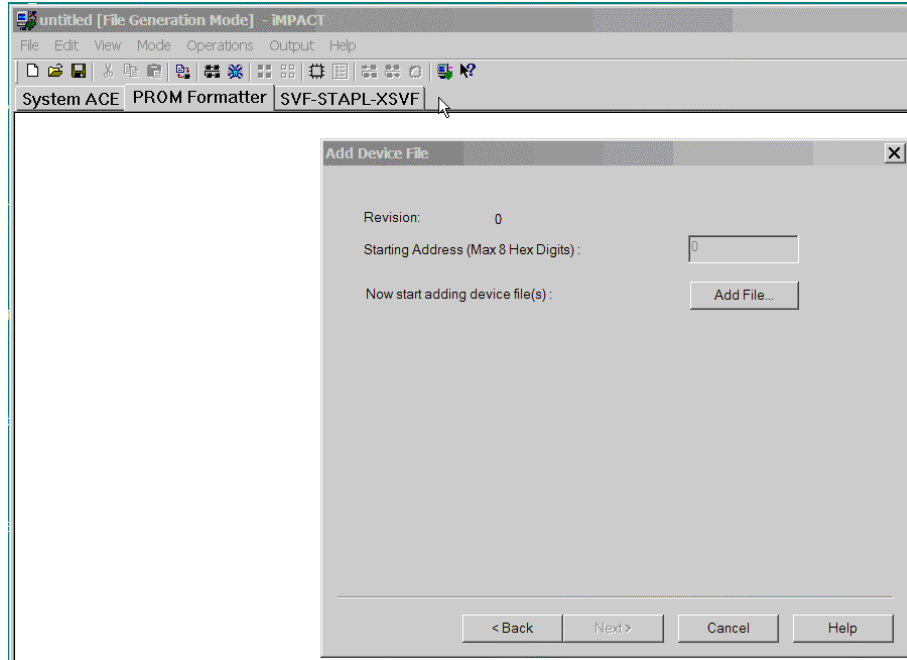

Figure B-5: Adding a Device File
- Click on Next twice to bring up the Add Device File screen shown in Figure B-5.